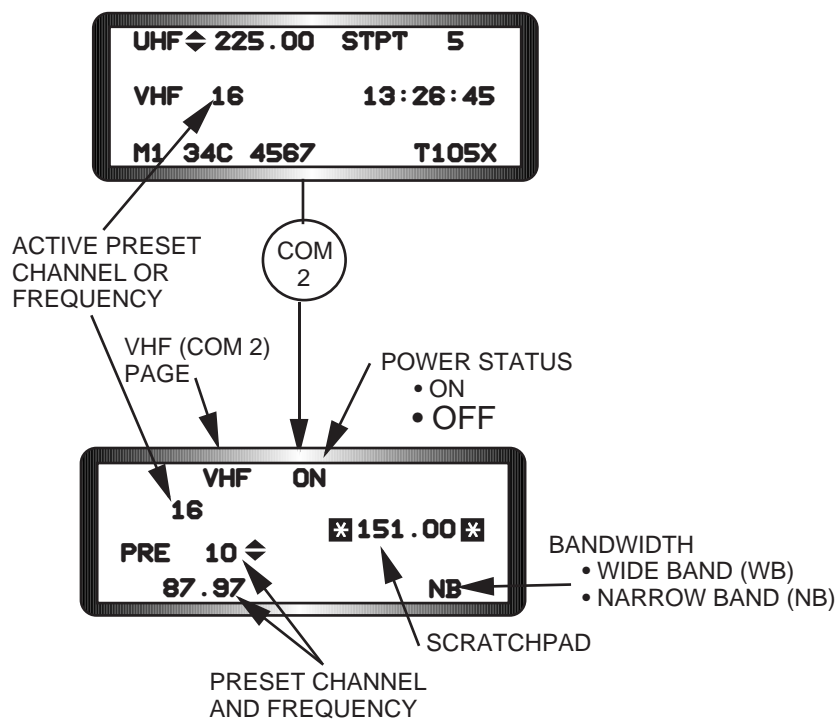

Figure 1-47 COM 2 DED Page
**Normal Radio Control.** Normal VHF radio control is very similar to the UHF radio. The VHF DED page (Figure 1-47) is accessed by depressing the COM 2 override button on the ICP. Data entry procedures for changing manual or preset frequencies are the same as UHF. Except as noted below, the COM 2 portion of